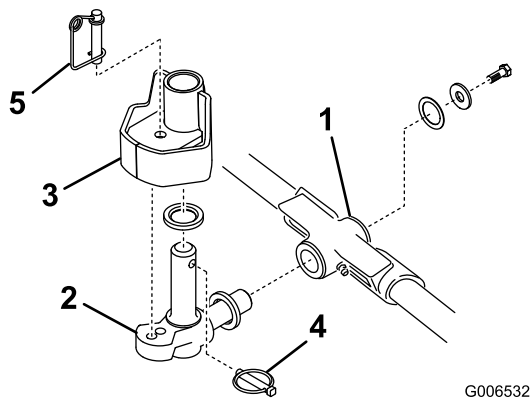

Figure 12
1. Insert a thrust washer onto horizontal shaft of pivot knuckle as shown in Figure 12.
2. Insert the horizontal shaft of the pivot knuckle into the mounting tube of the carrier frame (Figure 12).
3. Secure pivot knuckle to carrier frame with a thrust washer, a flat washer, and a flange head capscrew (Figure 12).
4. Insert a thrust washer onto vertical shaft of pivot knuckle (Figure 12).
5. If removed, insert the vertical shaft of the pivot knuckle into the lift arm pivot hub (Figure 12).
6. Insert the lynch pin into the cross hole on the pivot knuckle shaft (Figure 12).
11. Hook the spring wire around the bottom of the steering locking pin (Figure 12).
1. Assemble a reel blade (Figure 12).